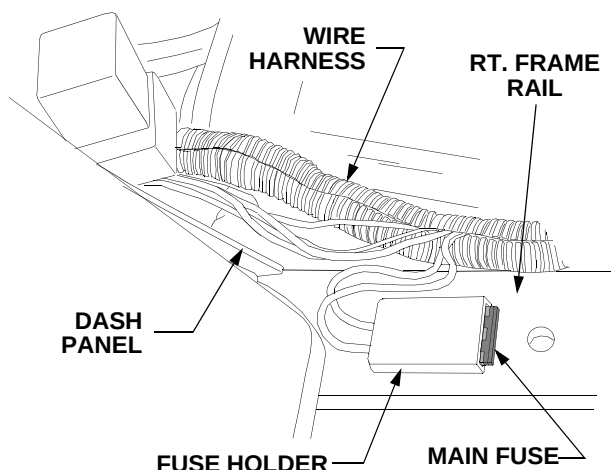

Figure 37
- Locate the main fuse under the dash panel, along the tractor's *right* frame rail. See Figure 37.